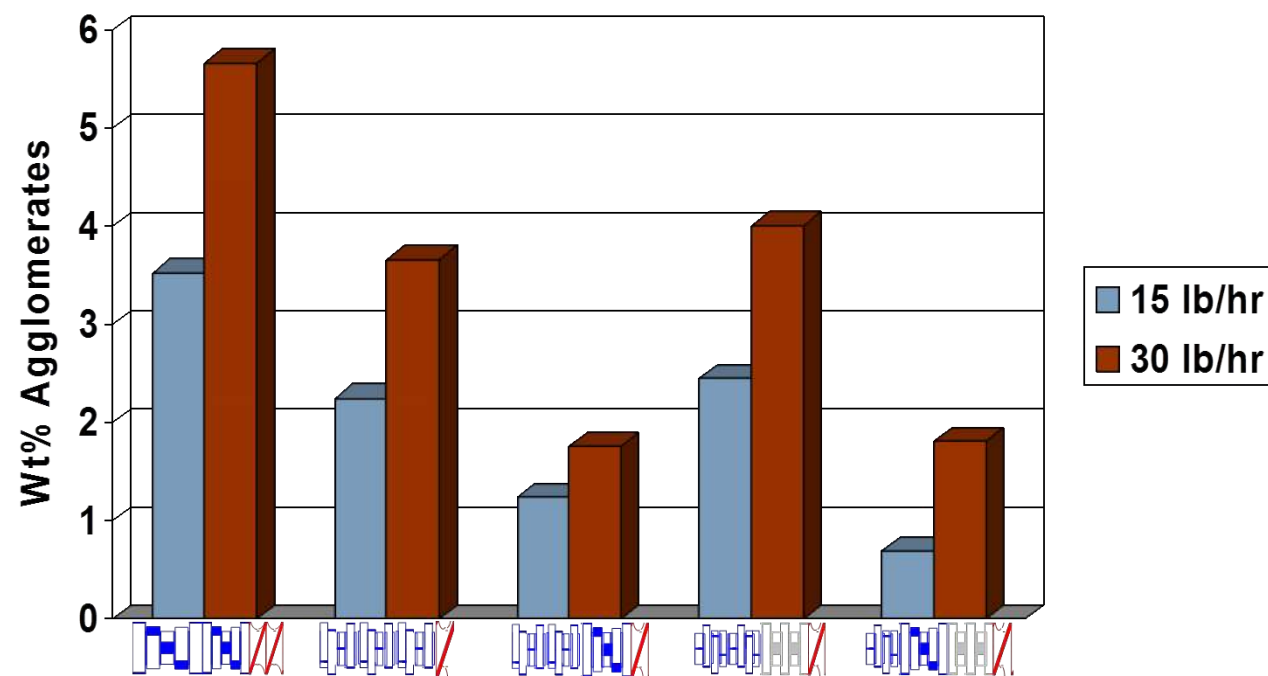
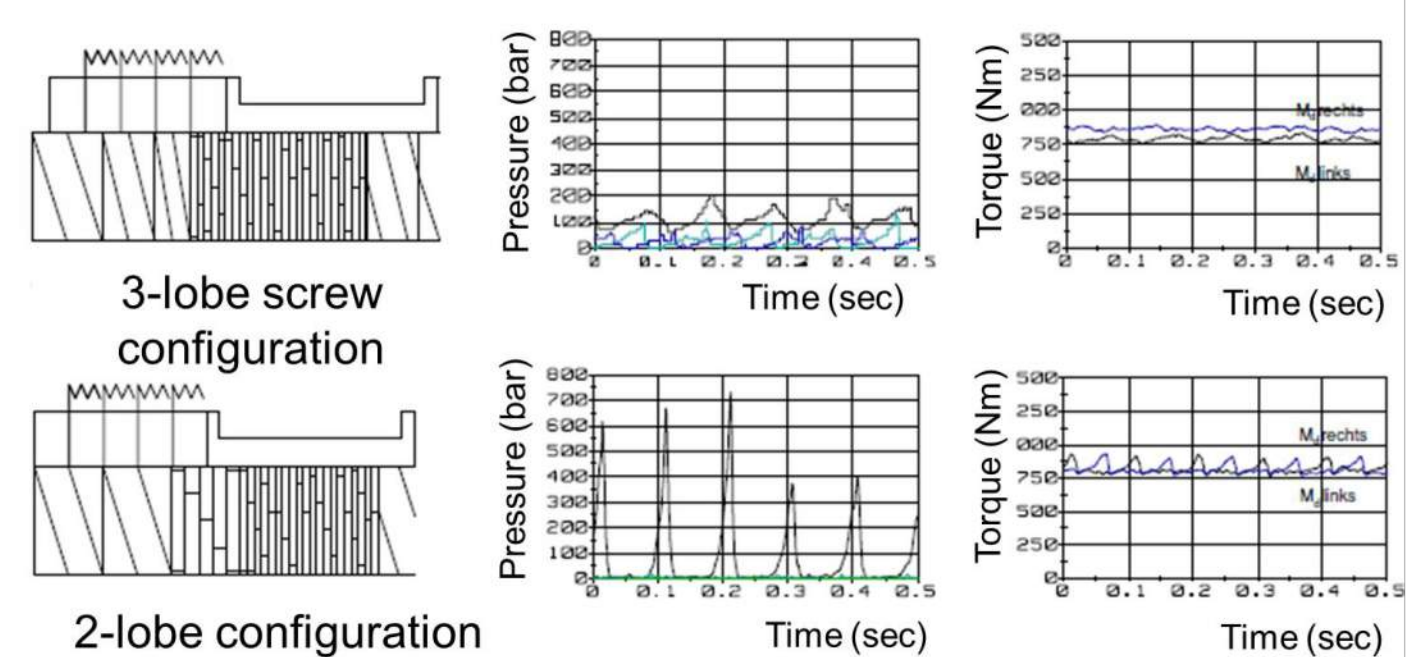
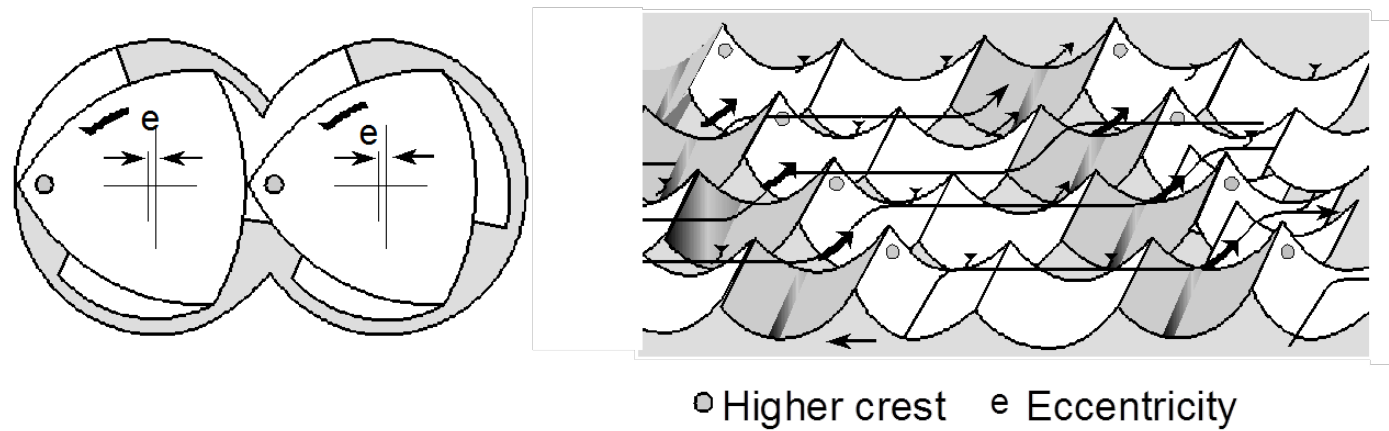

Figure 6: Impact of kneading block configuration on agglomerate content
Figure 7: Pressure vs. time profile for 3-lobe vs. 2 lobe kneading block geometry
Figure 8: Operating principle of 3-lobe kneading blocks
Figure 6 summarizes results from a paper by Rogers et al. (1). Five melting configurations were evaluated for melt mixing an 85/15 wt% PC/CaCO₃ blended feedstock. The compounded material was analyzed for agglomerates. The data provides the basis for the hypothesis that in addition to not breaking down aggregates, the choice of a non-optimal sequence can actually create agglomerates that then have to be broken apart later in the process. For example, the sequence at the far left is comprised of a wide disc (length is 1.5 times screw diameter) forwarding type KB followed by a medium disc forwarding KB (1 diameter long) and a full turn of reverse flow screw elements. The wt % of agglomerates for this 2-lobe KB sequence is significantly higher than the corresponding wt % agglomerates associated with the other 4 sequences that begin with a three-lobe kneading block. This difference can be explained by data in Figure 7.
Figure 7 shows a comparison of pressure and torque plots in the polymer melting zone for a 2-lobe and 3-lobe kneading block sequence. First, as shown on 2 plots in the center of the Figure 7, the apex pressure of the 2-lobe wide disc kneading block at the point of initial melting is roughly 3 times that of the 3-lobe kneading block. This 3x compressive pressure differential can provide sufficient additional force to agglomerate non-melting feedstock components during the melting process. The amount of agglomeration depends on the characteristics of the individual materials. Additionally, the plot on the right side of the figure illustrates a more subtle but still significant difference. The torque on the screw shaft is more stable with the 3-lobe kneading block. In this figure, the 3-lobe element exhibits a mild undulation as compared to the cyclic swing of the 2-lobe KB.
To further illustrate the point, note that the sequence (Figure 6, configuration 2) with only 3-lobe kneading blocks is not sufficient to obtain the best dispersion value. The third and fifth configurations (going left to right in Figure 6) which use a 1 diameter forwarding KB after the 3 lobe kneading blocks
Figure 8 illustrates the geometry of the 3-lobe kneading block and the basis for the reduced forward conveying capacity as well as the significantly lower pressure in the apex shown in Figure 7. The left illustration depicts the end view of the element. It shows that two of the three tips of the element have a larger gap than the third tip. This enhances the opportunity for material to flow over the tip and not be conveyed downstream, thus reducing forward conveying efficiency. When the material encounters the third tip which has the standard width gap, it is conveyed downstream. This is further illustrated on the right side with the unwrapped profile. Additionally, the larger gap between the element tip and barrel wall minimize material compression which is the basis for the 3-lobe kneading blocks displaying much lower and more uniform pressure in the apex of the extruder barrel, Figure 7. In summary, the geometry of the three lobe kneading block elements do not create, or at least reduce the creation of agglomerates as compared to wide disc kneading blocks. On the other hand, this geometry is not the most efficient for dispersive mixing. The best performance is obtained with an optimal sequencing of both 3-lobe and 2-lobe kneading blocks,